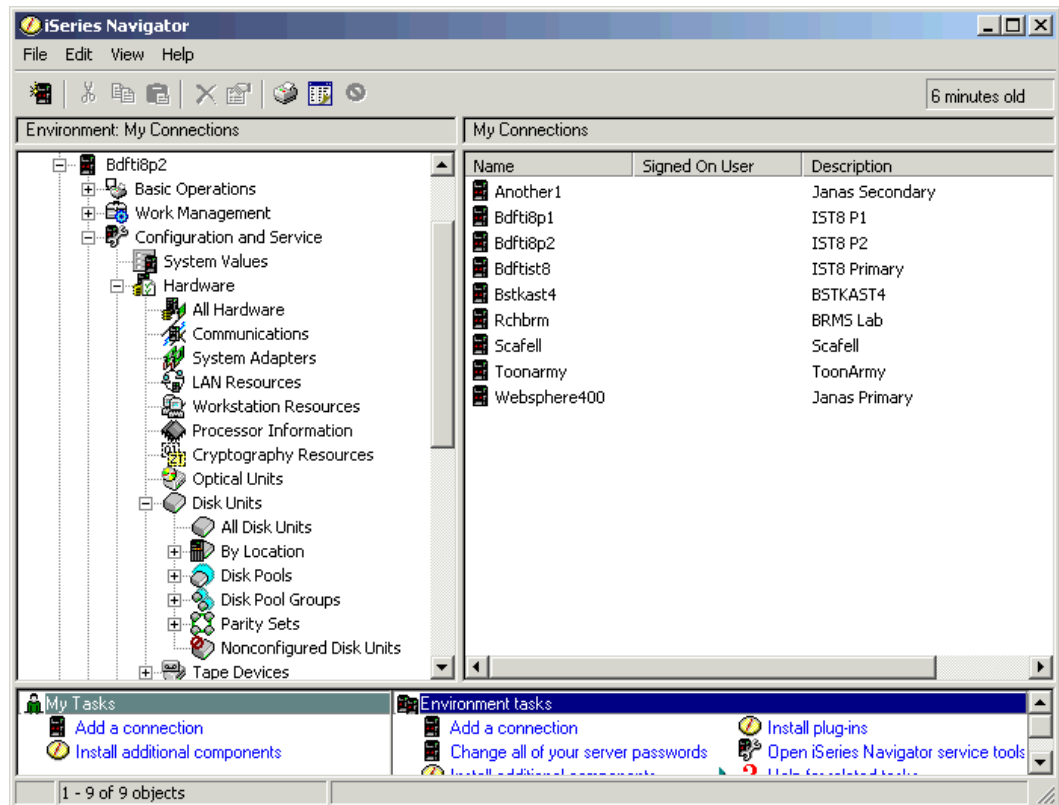

Figure B-10 Create a new disk pool
5. Right-click **Disk Pools** and select **New Disk Pool** as shown in Figure B-10 on page 380.